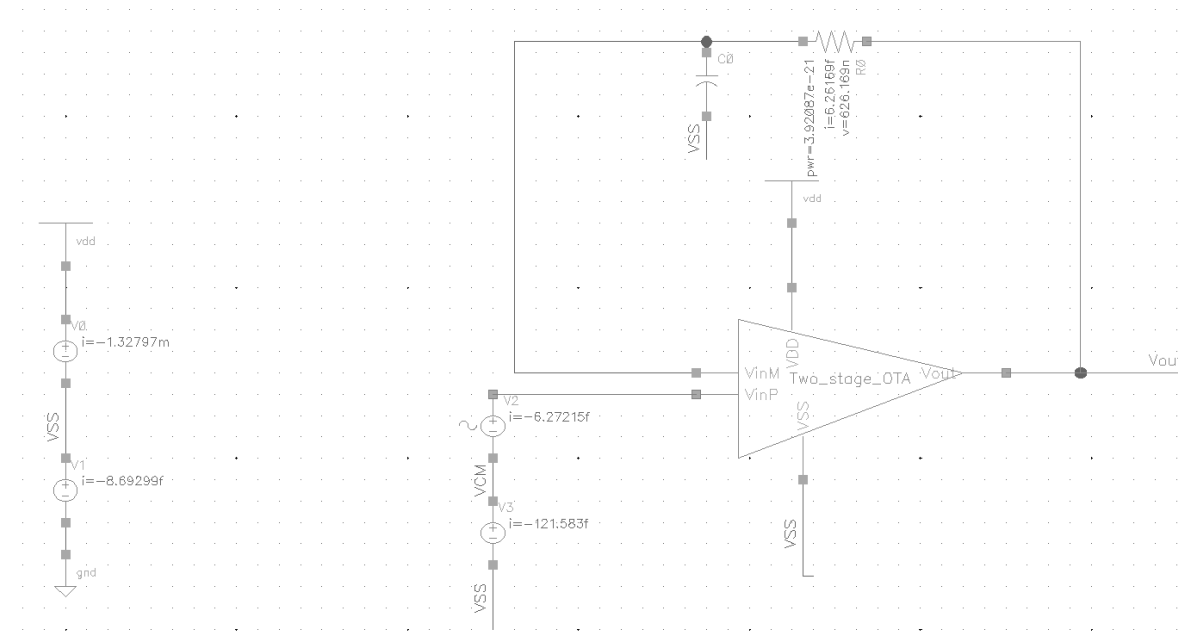

Figure 3: Two Stage OPAMP power consumption.
B. Figure 3 shows the current sick by the OPAMP, using it the power consumption can be calculated.  $PW = 1.8V \times 1.32797mA = 2.39mW$